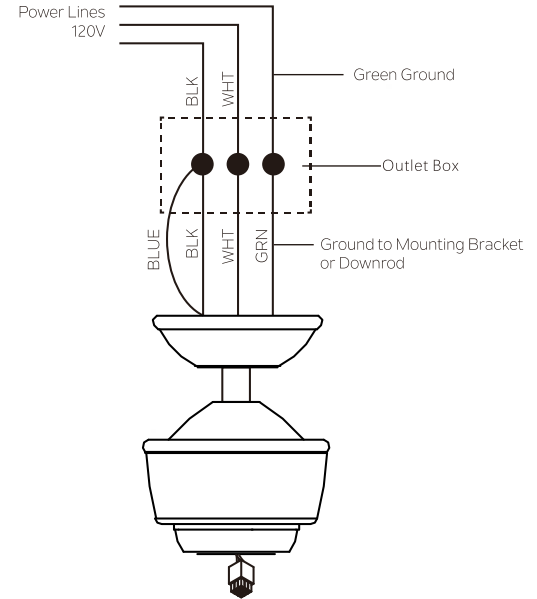

Fig. 12
Step 1. Connect the fan supply wire (black) and light supply wire (blue) to the household supply hot wire (black). (Fig. 12)